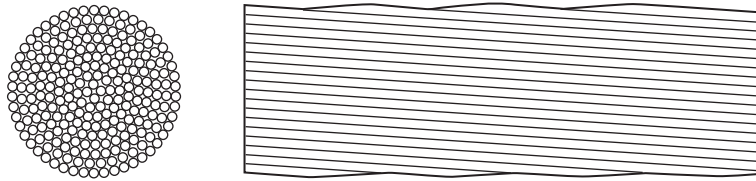

Fig. 10.4
- (vi) The suspension cables use a large number of Ø5mm steel wires spun or twisted together to give a Ø680 mm cable as shown in Fig. 10.4.